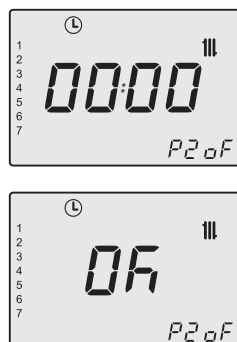

Fig. 2.15
Any unused programmes must be set to 0. Once set to 00:00 confirm with key 17 and the related automatic off time brackets will be set to 00:00 (Fig. 2.15).